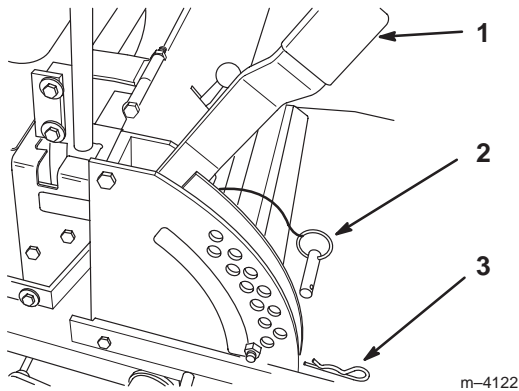

Figure 20
1. Raise the height-of-cut lever to the transport position (also the 4-1/2 inch [114 mm] cutting height position) (Fig. 20).
2. To adjust, remove the hairpin cotter and clevis pin from the height-of-cut bracket (Fig. 20).
3. Select the hole in the height-of-cut bracket corresponding to the height-of-cut desired, and insert the clevis pin (Fig. 20).
4. Secure the clevis pin with the hairpin cotter (Fig. 20).
5. Lower the height-of-cut lever onto the clevis pin (Fig. 20).